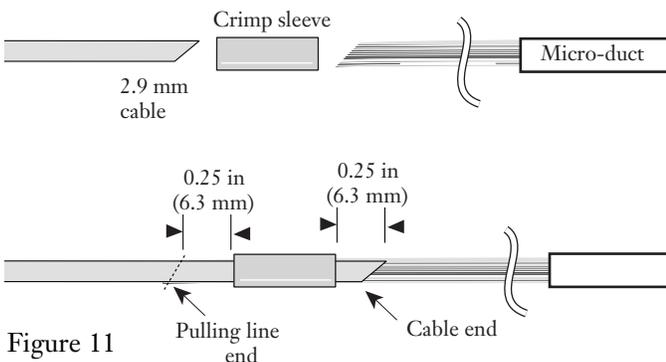

Figure 11
- Use scissors to trim the ends of both the pull line and the 2.9 mm cable at a 45° angle (see Figure 11).
- Slide the ends of the cable and pulling line through opposite ends of a crimp sleeve as shown in Figure 11: